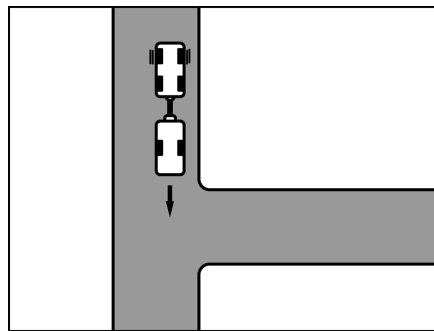

Fig. 10 Approach
- Drive up to the entrance until the rear of the caravan is roughly level with the entrance (Fig. 10).